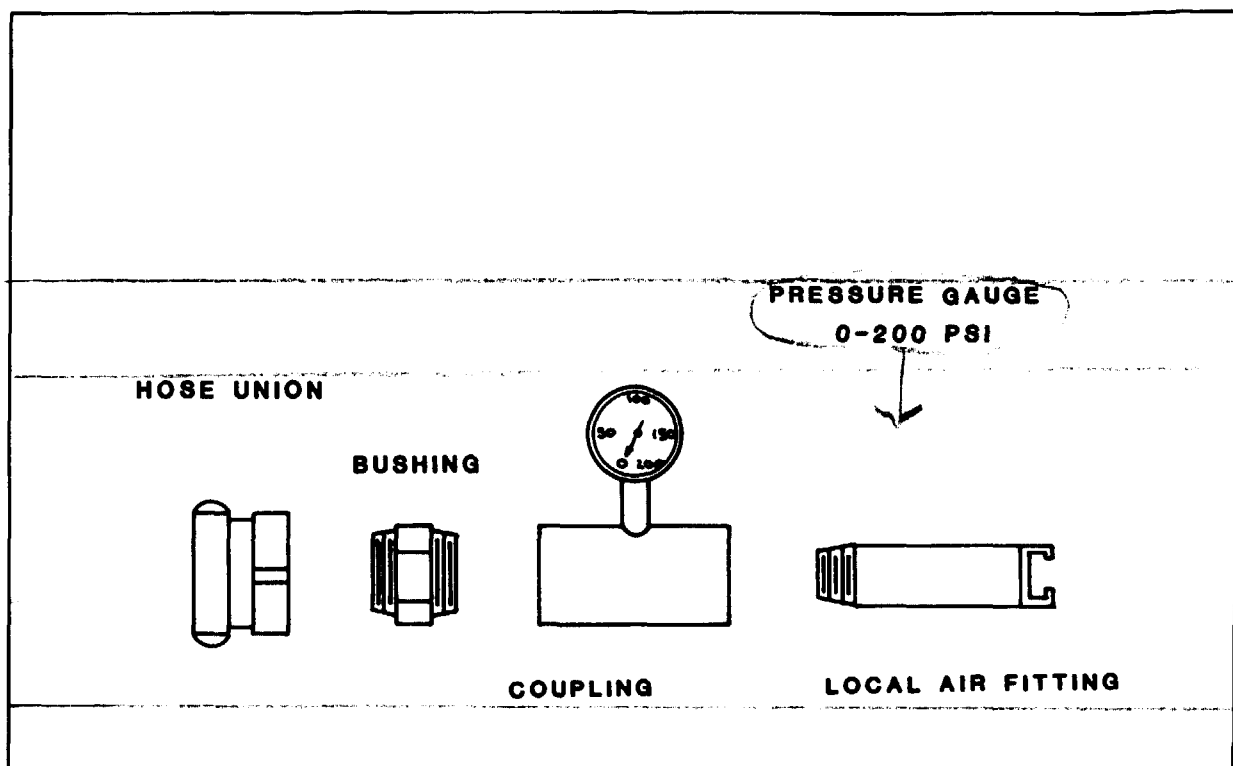

FIGURE B-3
- c) Adapter Air Manifold/Shore Air Supply 1-1/4" NPT X 1-1/2" NPSH (Figure B-3)